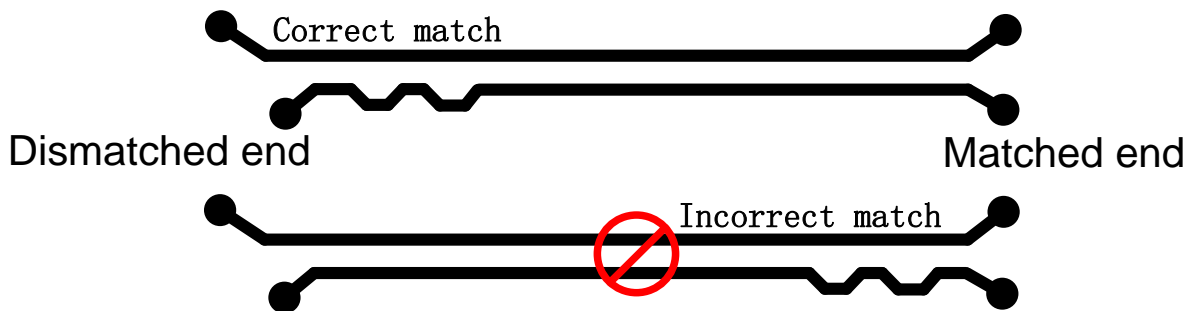

Figure 3-14 Length Match Design of PCIe Difference Pair
- The difference in length of two data lines in difference pair should be within 5mil, and the length match is required for all parts. When the length match is conducted for the differential lines, the designed position of correct match should be close to that of incorrect match, as shown in Figure 3-14. However, there is no specific requirements for the length match of transmit pair and receiving pair, that is, the length match is only required in the internal differential lines rather than between different difference pairs. The length match should be close to the signal pin and pass the small-angle bending design.